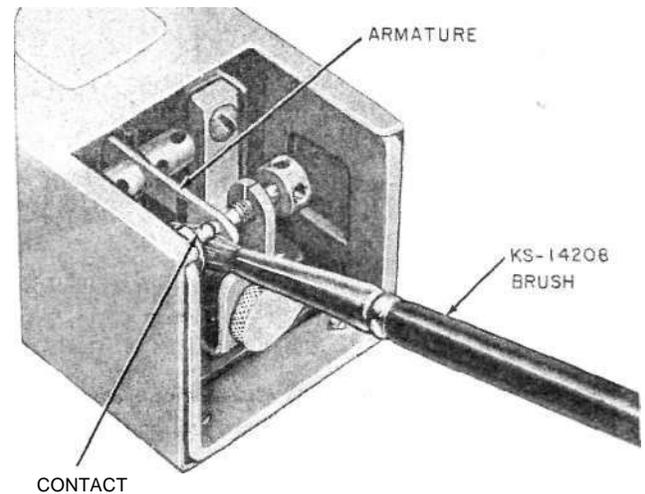
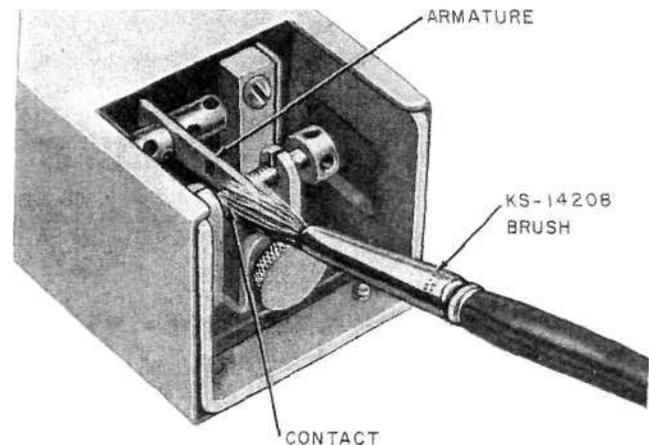

Fig. 2—Position of KS-14208 Brush Hairs When Brush Is Below Contacts on a 239-Type Relay
Fig. 3—Position of KS-14208 Brush Hairs after Brush Has Been Moved Slightly Upward and Outward on a 239-Type Relay
4.04 *All Relays Except Wire-Spring and UB-Type Relays:* Hold the KS-14208 brush so the hairs are directly under the contacts to be cleaned, (Fig. 2). Brush the contacts by gradually working the brush up between the contacts using a back and forth (sawing) motion, as shown in Fig. 3, 4, and 5. The contacts will be cleaned as the hairs pass between them. Repeat this operation two or three times. When cleaning normally closed contacts, operate the relay manually. To brush contacts on 207-type relays, it will be necessary to use a locally modified brush having the ferrule bent at approximately